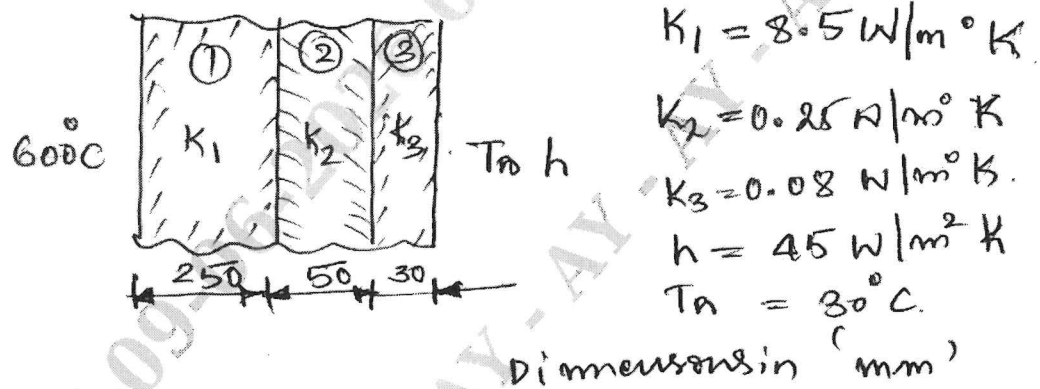

Fig. Q. 7 (b)
- b. An induction furnace wall consists of 3 layers as shown in figure Q. 7 (b). Determine the nodal temperature at each point and sketch the temperature gradient across the composite wall.